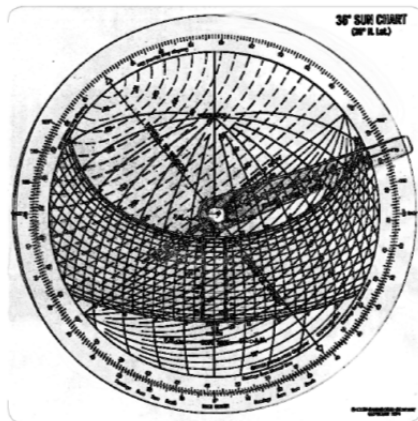

Figure 25: For more exact sizing, use the Pilkington Sun Angle Calculator
- **Pilkington Sun Angle Calculator.** A more thorough and accurate method uses this easy manual tool (Figure 25, available online for \$25 from the Society of Building Science Educators at www.sbse.org/resources/sac). The instruction manual is also available for free download on the SBSE website. Similar software tools can now be found on the web.